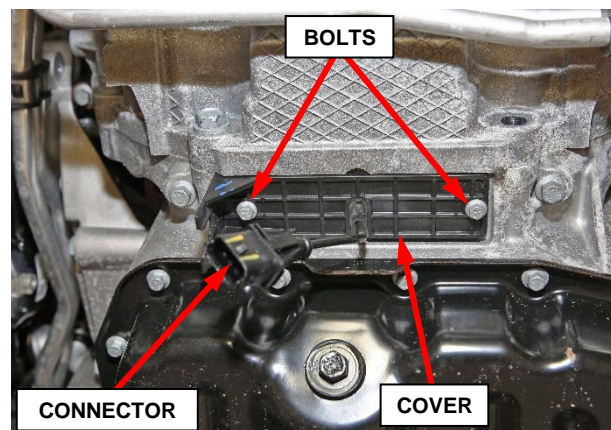

Figure 35 – CKP Access Cover
44. Remove the access cover bolts and the access cover (Figure 35).